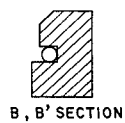

Fig. 5.1.9
- (2) Referring to Fig. 5.1.9, set a dial thread into the groove on the protrusions "B" and "B'" of the F03 (Lamp Base Ass'y).